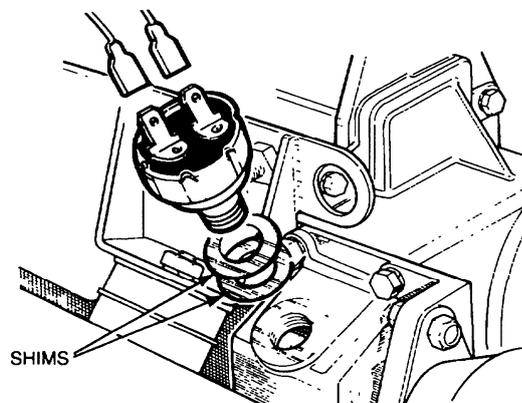

Figure 72 Differential Lock Engagement Switch Removal
- b. Disconnect the two electrical wires, unscrew the switch and remove the shims (Figure 72).